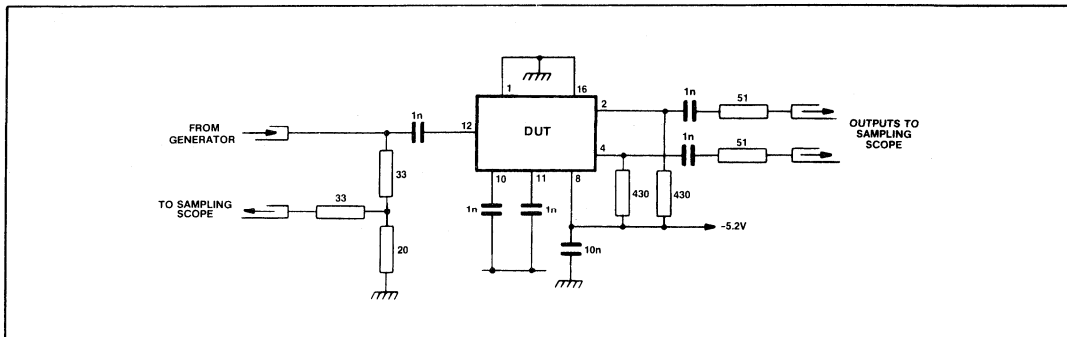

Fig. 6 Toggle frequency test circuit
1. The clock input (pin 12) should be capacitively coupled to the signal source. The input signal path is completed by connecting a decoupling capacitor from  $V_{REF1}$  (pin 11) to ground.  $V_{REF2}$  (pin 10) should also be decoupled with a suitable capacitor, see Figs. 6 and 7.